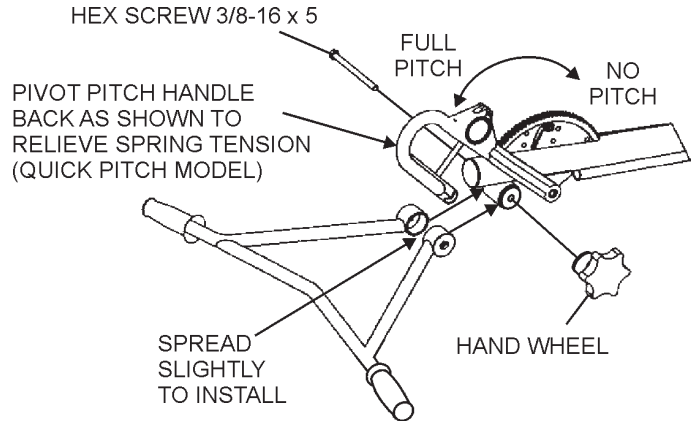

Figure 6. Handlebar Installation
2. On Quick-Pitch™ models, pivot the **T-handle** back (full pitch) (Figure 6). This will relax the spring inside the handle tube. On either model, spread the handle bar ends just enough to engage the teeth on the handle tube. Attach the hand wheel assembly, position handlebar to desired location, and tighten hand wheel firmly.